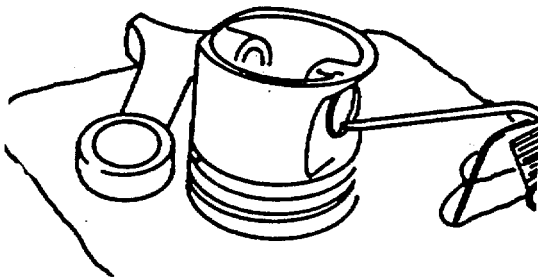
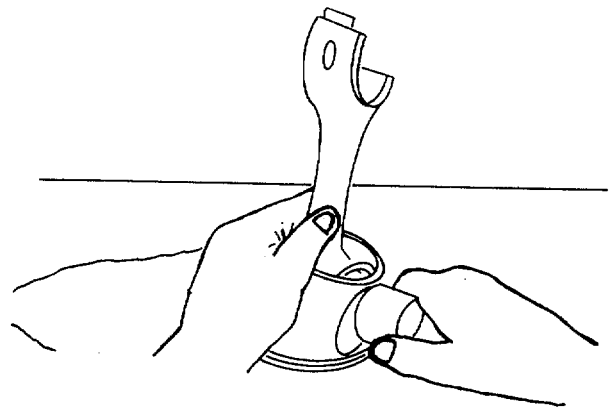

FIGURE 4-45. Lubricating Pin and Bore
FIGURE 4-46. Installing Pin.
- b. Lubricate the pin and pin bores with engine oil (FIGURE 4-45). Install the pin (FIGURE 4-46).